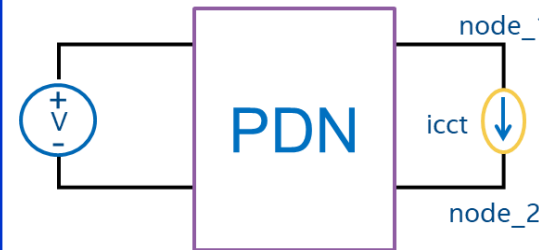
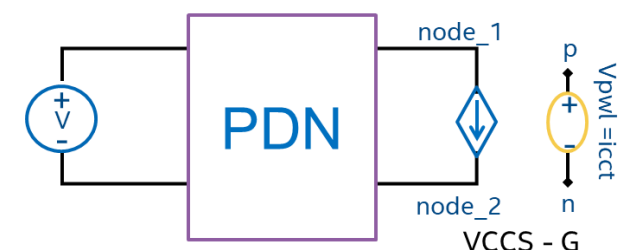

Fig.2 1st order setup
Fig.3 2nd order setup
- In Power Integrity transient simulation with an actual power delivery network (PDN), the icct profile shall be connected as shown by Fig.3 through G element with the 2nd Polynomial function for accuracy, other than the 1st order connection as shown in Fig. 2 for efficient analysis.
- *Gpoly node1 node2 POLY(2) node1 node2 p n 0 0 0 0 '1/V_{typ}'